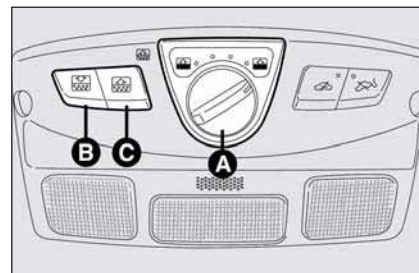

fig. 90
With fully closed sunroof (knob at 0), turn knob **A-fig. 90** clockwise and select one of the five possible opening positions.
Turn knob **A-fig. 90** counter-clockwise and select one of the possible five closing positions.
Every position corresponds to a type of sunroof closing. For closing the sunroof fully with just one operation, set the knob **A-fig. 90** to 0.
Press button **B-fig. 90** to open the sun curtain fully. Press the button again to stop it.
To close the sun curtain press button **C-fig. 90**. Press the button again to stop it.
- turn knob **A-fig. 90** fully counter-clockwise;
- press and keep knob **A-fig. 90** pressed until the sunroof locks, then release it;
In this case it is possible to inhibit the anti-crushing system by closing the roof (within 5 seconds from system activation), turning knob **A-fig. 90** to 0 and keeping it pressed upwards until closing.